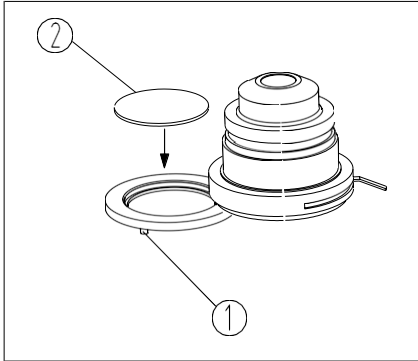

Fig.17
Unscrew color filter holder① at the bottom of the condenser in clockwise direction, install the filter② into the holder, then reinstall holder in counterclockwise direction (See Fig.17).